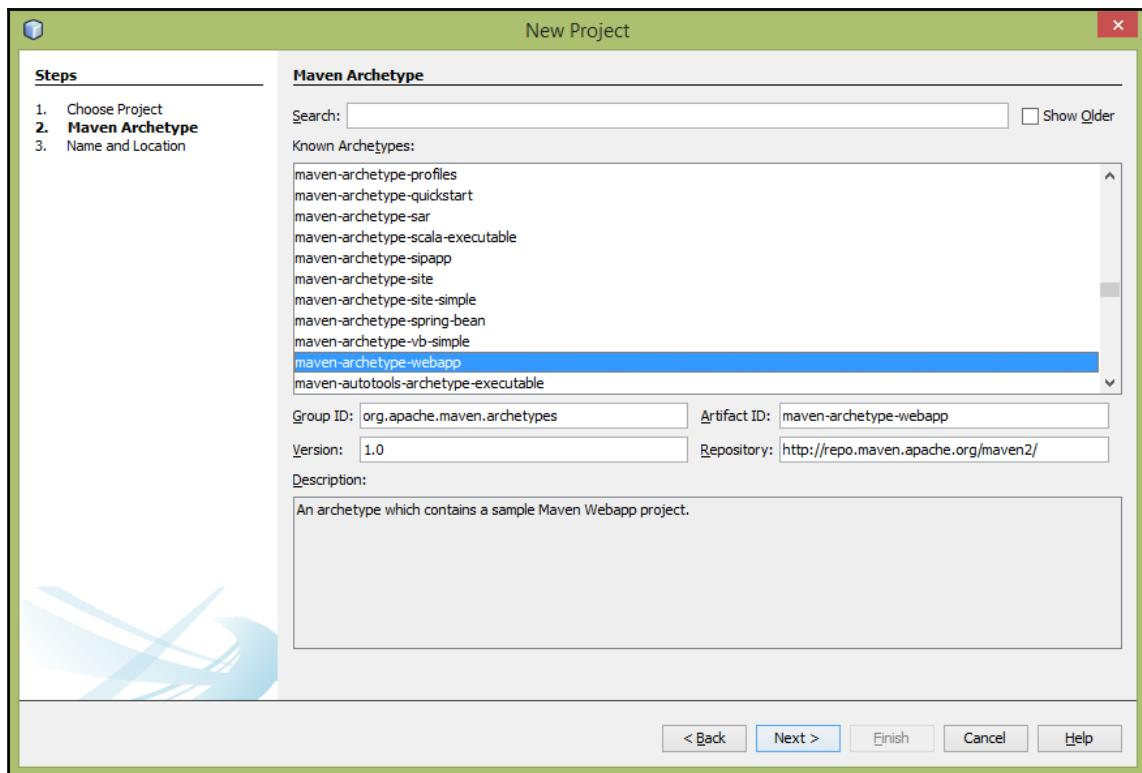

Figure 6-5: Maven Archetype
4. In **Maven Archetype** (step 2), select **maven-archetype-webapp** under **Known Archetypes**, as shown in Figure 6-5.